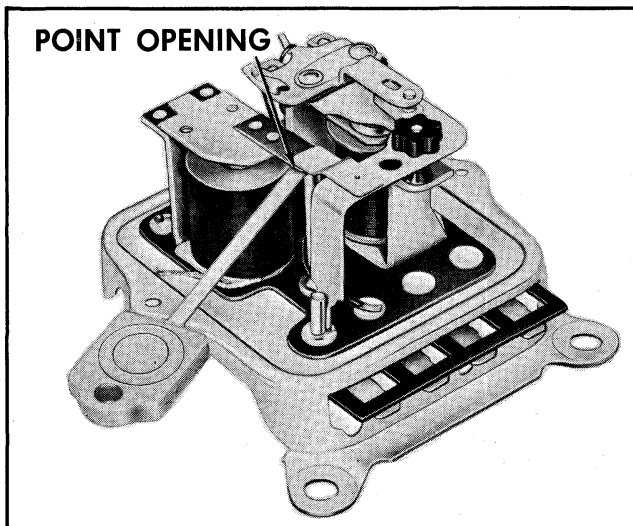

Fig. 11-40 Checking Field Relay Point Opening
2. Point Opening: Measure the opening between the points, and adjust by bending the armature stop. (Fig. 11-40).